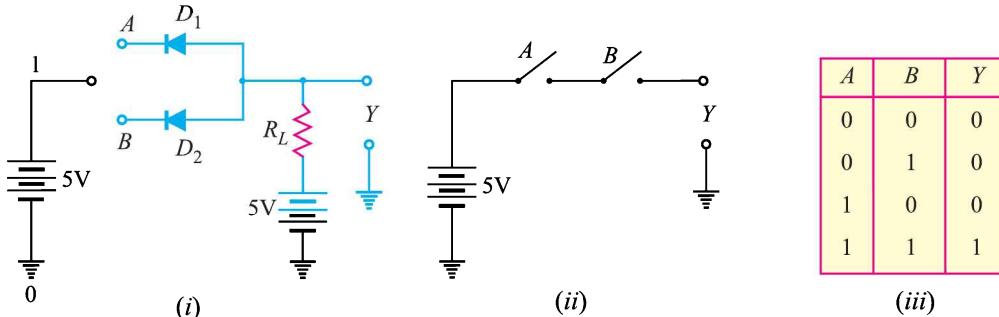

Fig. 26.8
**AND gate operation.** Fig. 26.8 (i) shows one way to build a 2-input AND gate while \*Fig. 26.8 (ii) shows its simplified schematic diagram. There are only four input-output possibilities.
(i) When both  $A$  and  $B$  are connected to ground, both the diodes ( $D_1$  and  $D_2$ ) are forward biased and hence they conduct current. Consequently, the two diodes are grounded and output voltage is zero. In terms of binary, when  $A = 0$  and  $B = 0$ , then  $Y = 0$  as shown in truth table in Fig. 26.8 (iii).
- \* Note that two switches used to represent the OR function were connected in parallel. If the switches are connected in series [See Fig. 26.8 (ii)], AND function is obtained. The output is high if both the switches are closed. The output will be low if either switch is open.